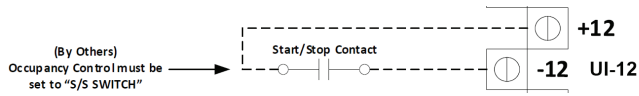

Fig. 32 — S/S Relay Wiring
- S/S switch - unit will determine occupied/unoccupied mode based on a start/stop switch. The switch must be wired to UI-12 of the unit controller. The unit will be in occupied mode if the switch is closed (contact closed). The unit will enter unoccupied mode if the switch is opened (contact open). See Misc. Options B under Unit Control Config (*Home*→*Set Up*→*Unit Config.*) for additional configuration needed for S/S Switch. See Fig. 32 for wiring and relay/switch details.